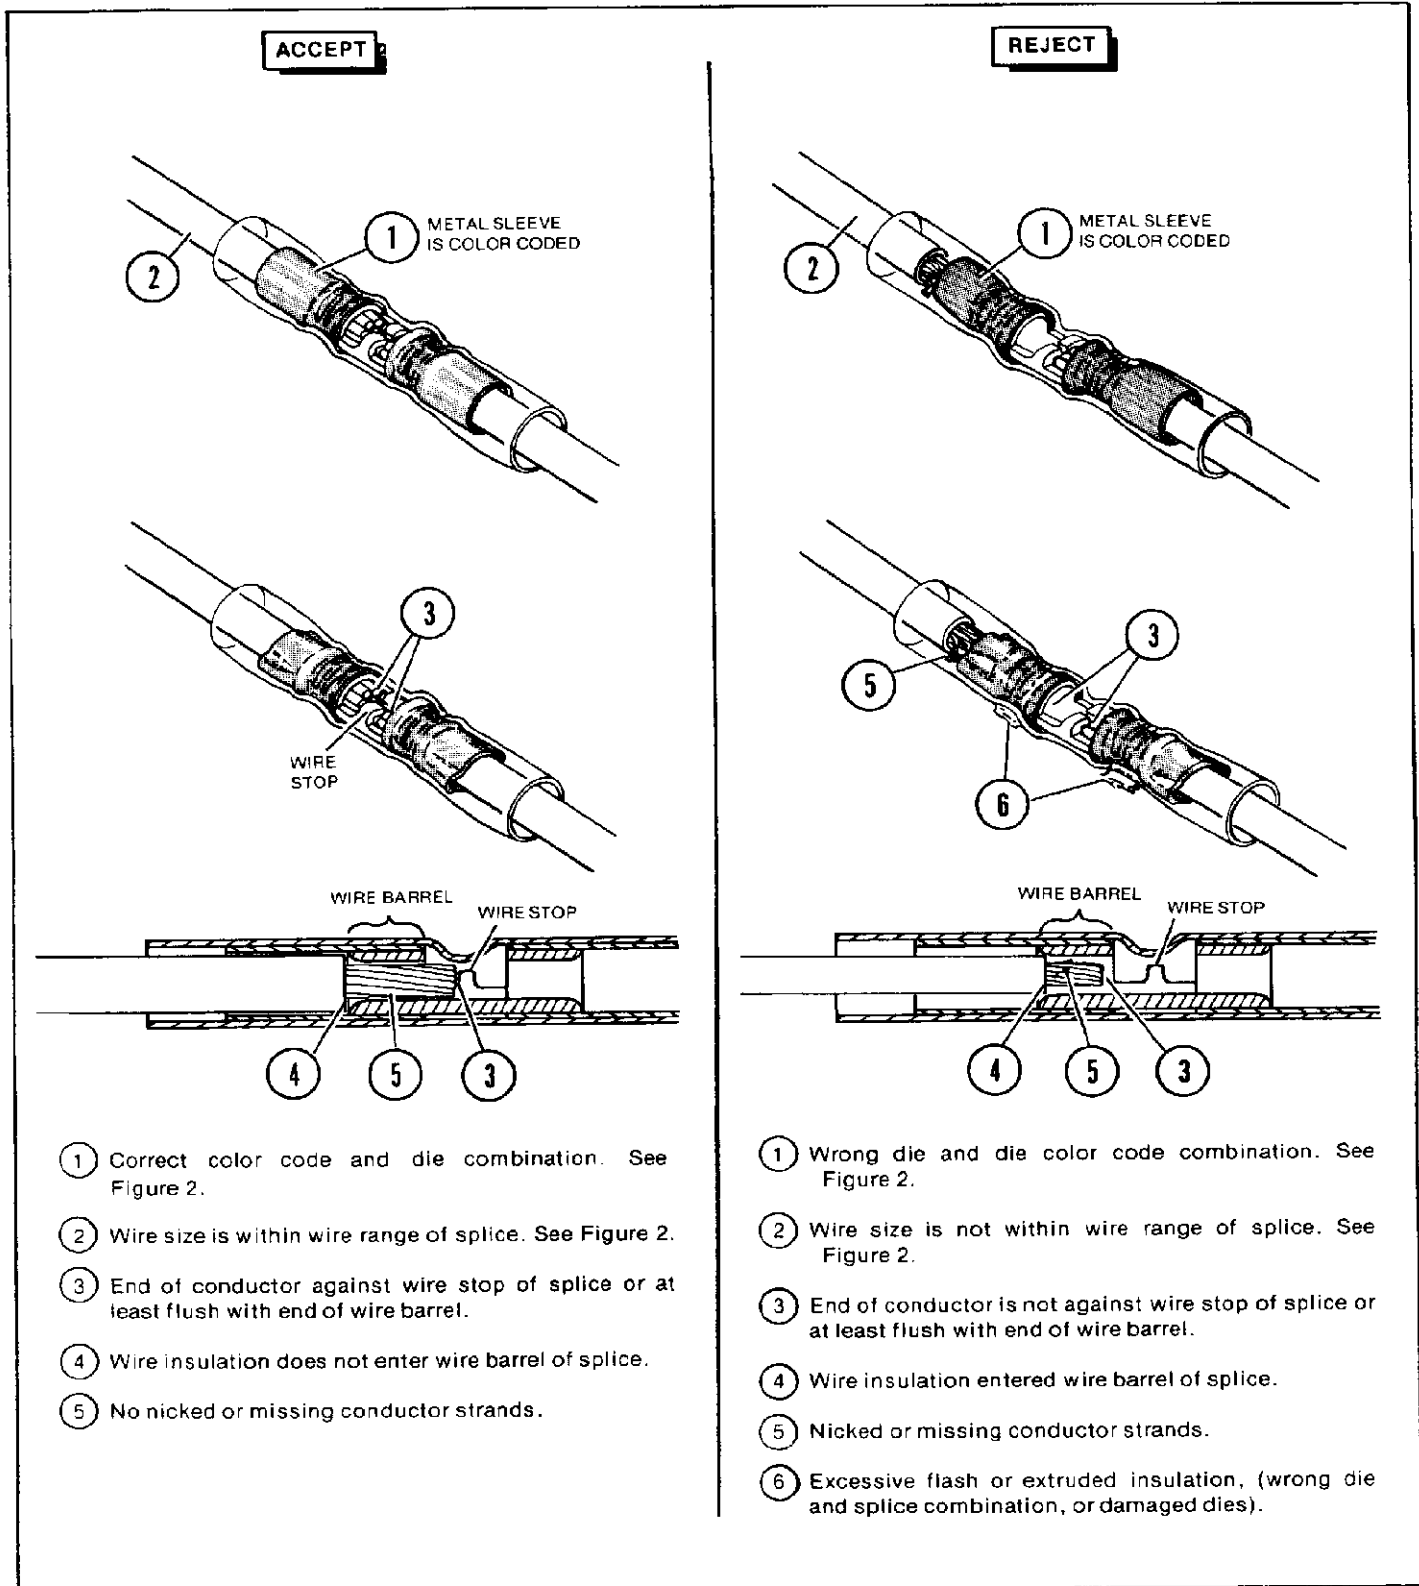

Figure 4
- Refer to Section 3 and Figure 4 for splice "Crimp Inspection" procedure.
Inspect crimped splices by checking the features described in Figure 4.